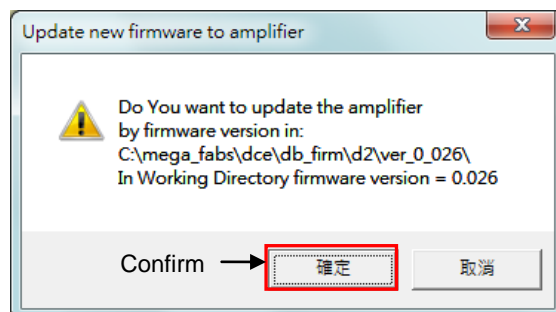

Fig. 4-27
- Step 2. Click "File" at the left corner of window and select "Update selected firmware to amplifier" to open a dialog box, as shown in Fig. 4-27.